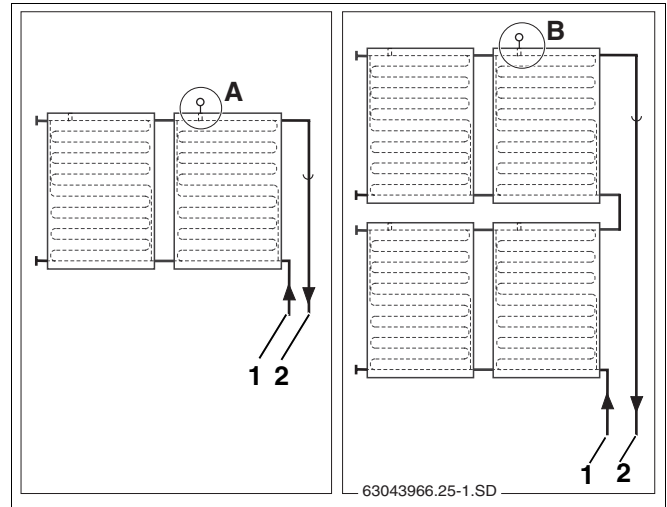

Fig. 50 Collector sensor installation location (schematic)
Observe the installation location for single or dual row collector systems (Fig. 50).
The collector sensor must be fitted in the collector nearest to the flow connection (Fig. 50, **Item 2**).
- Insertion point (Fig. 50, **Item A**) for single row collector systems.
- Insertion point (Fig. 50, **Item B**) for dual row collector systems.